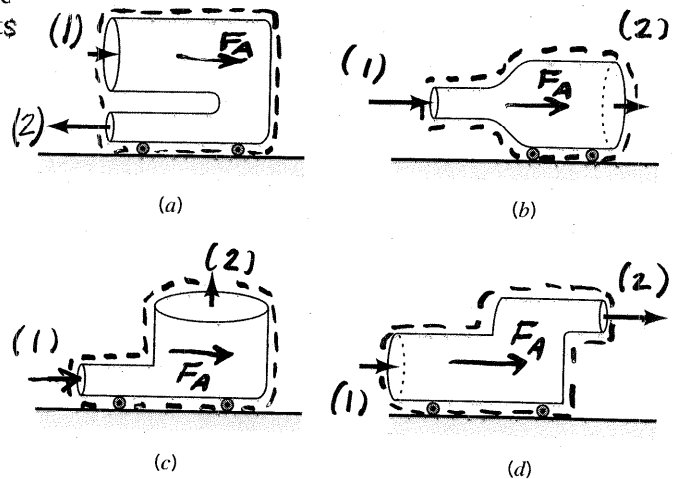

FIGURE P5.58
5.58 The four devices shown in Fig. P5.58 rest on frictionless wheels, are restricted to move in the x direction only and are initially held stationary. The pressure at the inlets and outlets